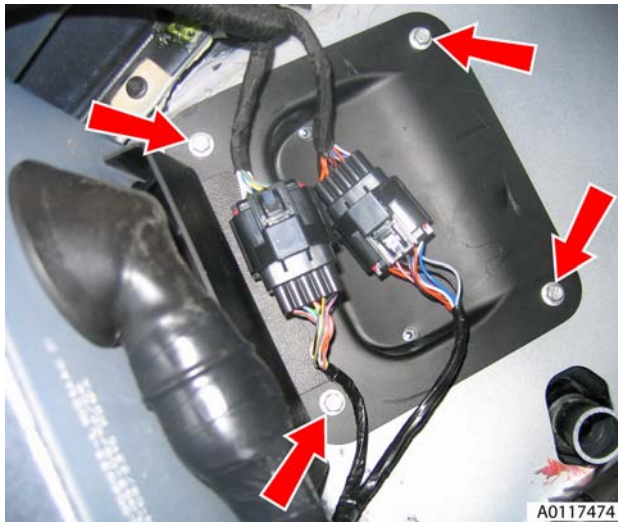

Figure 1
2. Remove bolts (x4) securing ECU mounting plate and release from body (see Figure 1).